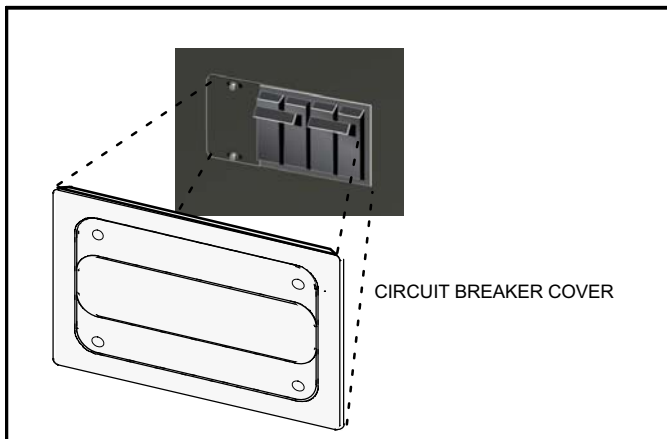

Figure 8. Circuit Breaker Cover Installation
4. Position the breaker cover over the air handler circuit breaker opening (figure 8).